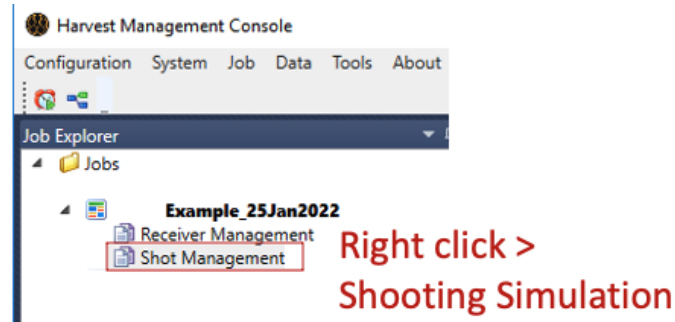

Figure 4-7 How to access the shooting simulation.
6. Right-click on Shot Management (under your Job) and select Shooting Simulation (see Fig 4-7).